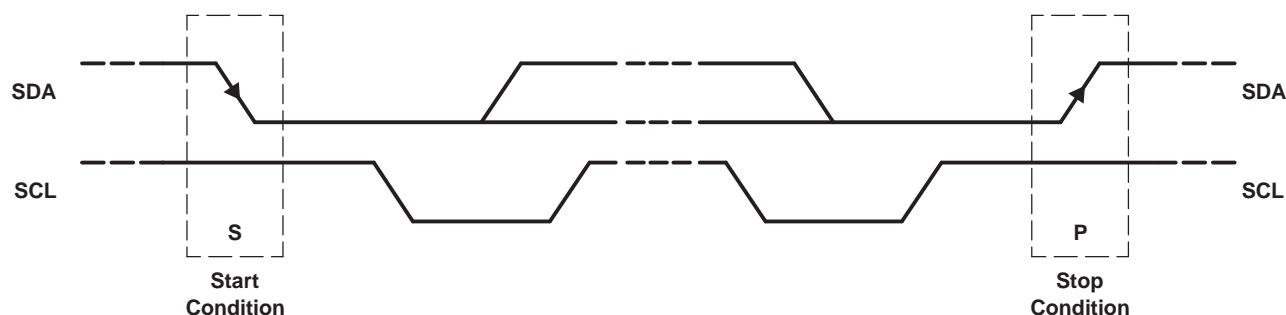

Figure 41. START and STOP Conditions
- The *Master* initiates data transfer by establishing a *Start* condition. The *Start* condition is defined when a high-to-low transition occurs on the SDA line while SCL is high, as shown in Figure 41. The byte following the start condition is the address byte consisting of the 7-bit slave address followed by the \overline{W} bit.